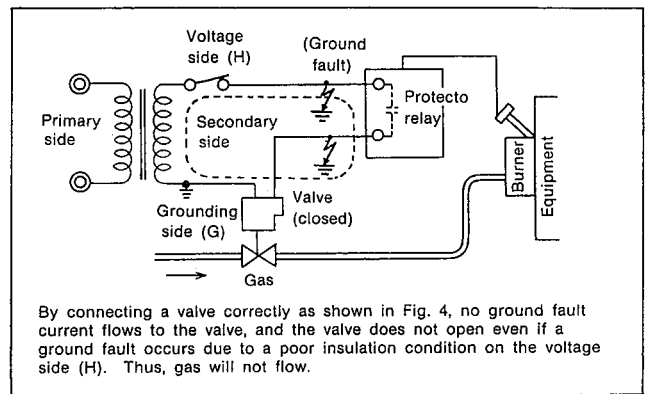
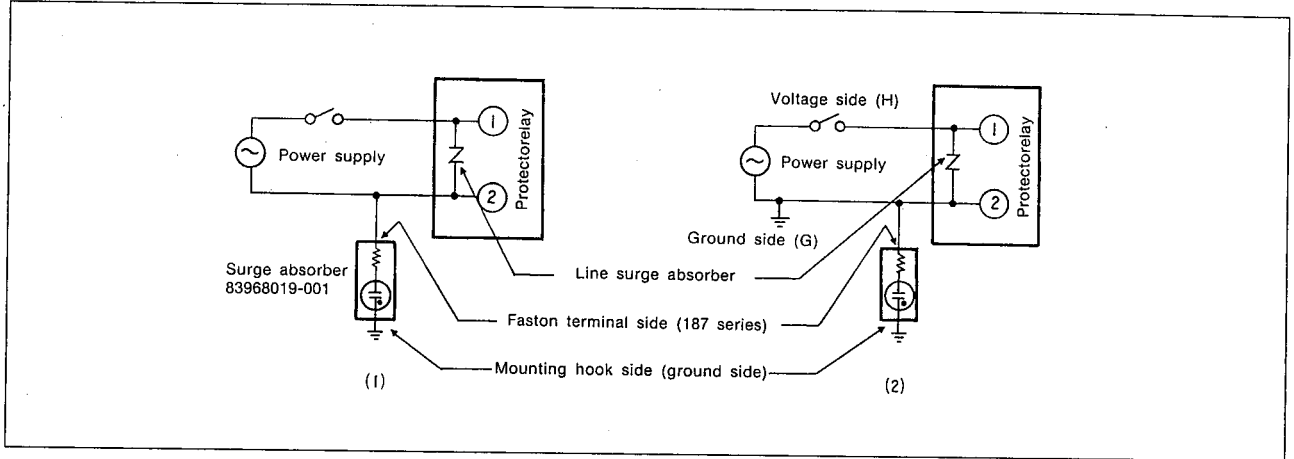

Fig. 4
Fig. 7
- (2) Connect the voltage side (H) of the power supply to terminal ①, and connect the grounding side (G) of the power supply to terminal ②. For the connection to the valve, see Fig. 4.
- (3) Don't connect cables to interfere with the installation of the protectorelay which is mounted by a plug-in method.
- (4) After confirming that the subbase has been connected correctly, plug the protectorelay onto the subbase, and fix it by cover mounting screws.
- (5) Connect terminal ② and ground as shown in Fig. 7 (1), (2) when a surge absorber is used. The surge absorber mounting bracket is internally pressurized with the grounding side to be conductive. Accordingly, it is connected to a ground simply by mounting it to a grounded boiler housing or the like. Connect a lead wire of larger than 0.75mm^2 (wire diameter: 0.18mm , No. of wires: 30) specified in JIS C3306 to the power supply. Mount a #187 faston plug socket at one end, and shorten the connection cable as much as possible.